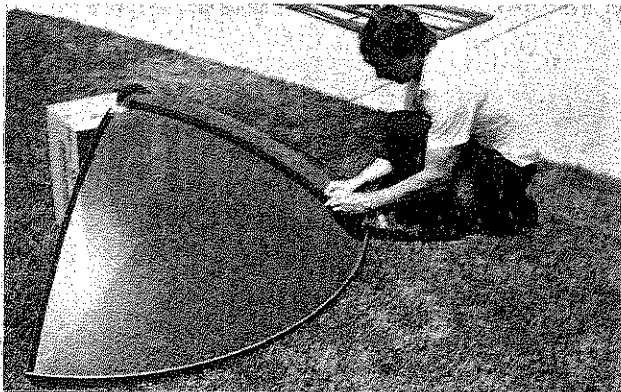

FIGURE 1
STEP 1. Place two reflector segments face down on level surface with center supported about 18" off surface. (Fig. 1)